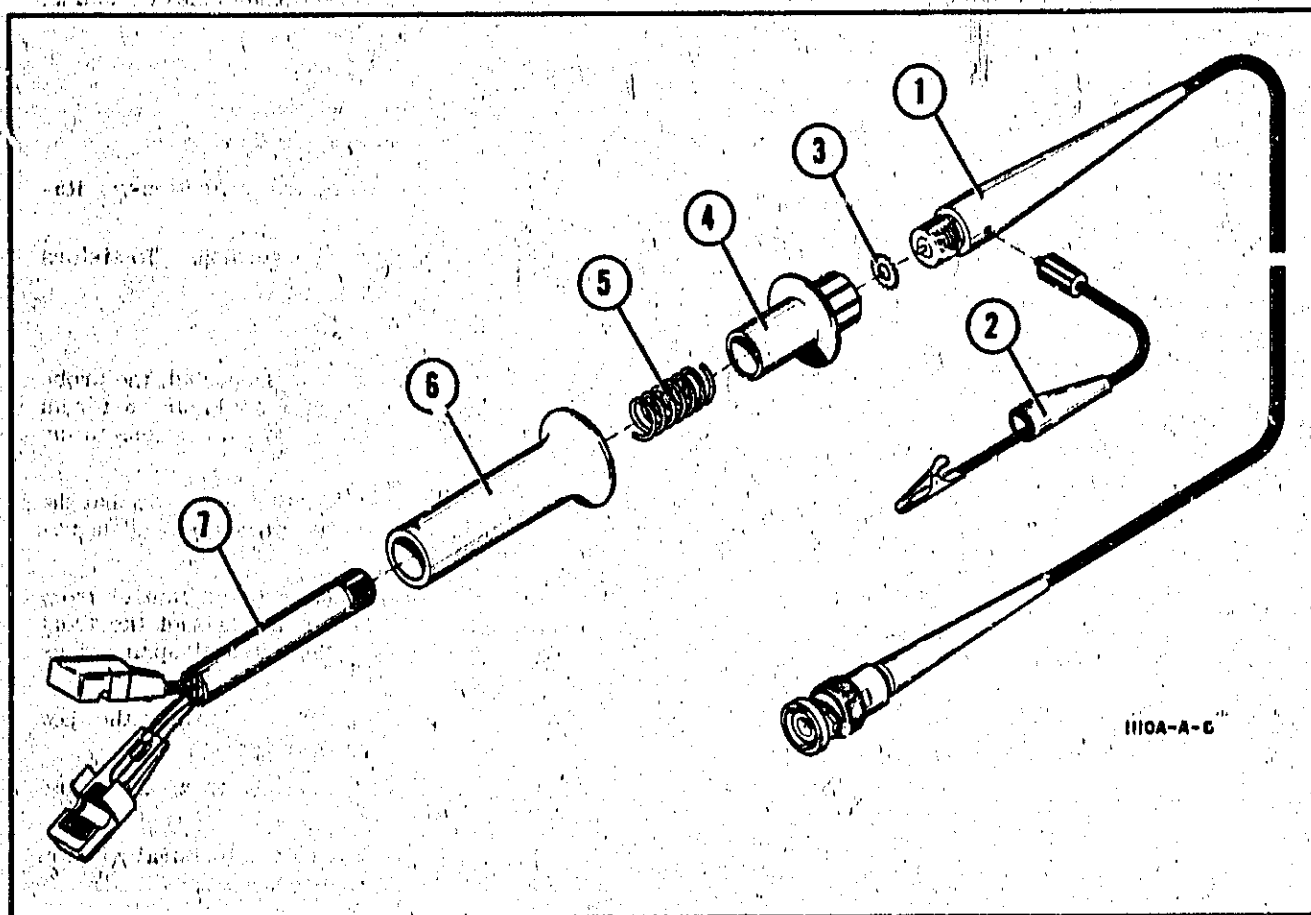

Figure 8. Model 1110A Current Probe, Exploded View
- (1) Resistors R1-R4 defective.
- (2) Ground lead defective.
37. If a defective component is suspected, the probe must be disassembled. Refer to Figure 8 for an exploded view of the probe. To gain access to the interior: